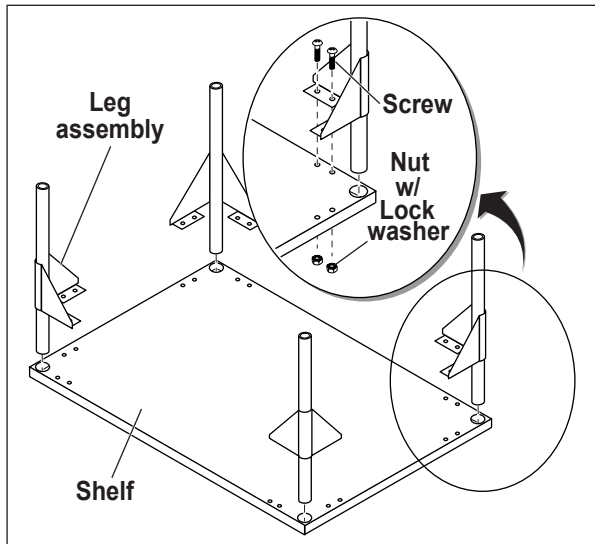

Figure 1
1. Insert short end of leg into top of shelf (Fig. 1).
2. Secure into place with one (1) screw, one (1) lock washer, and one (1) nut per hole.
3. Repeat leg installation with three (3) remaining legs.